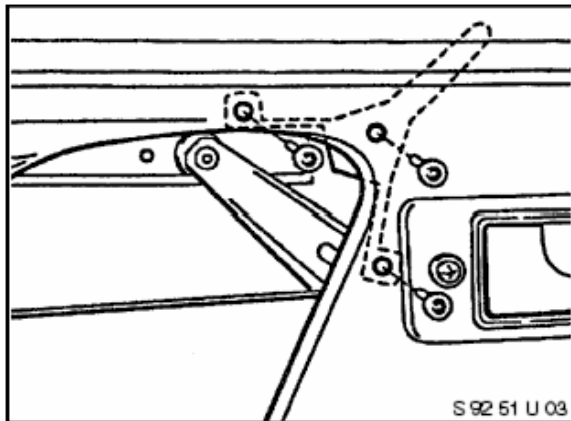

Figure 2
- Fit the window regulator stop on the inner metal door panel (see figure 2).